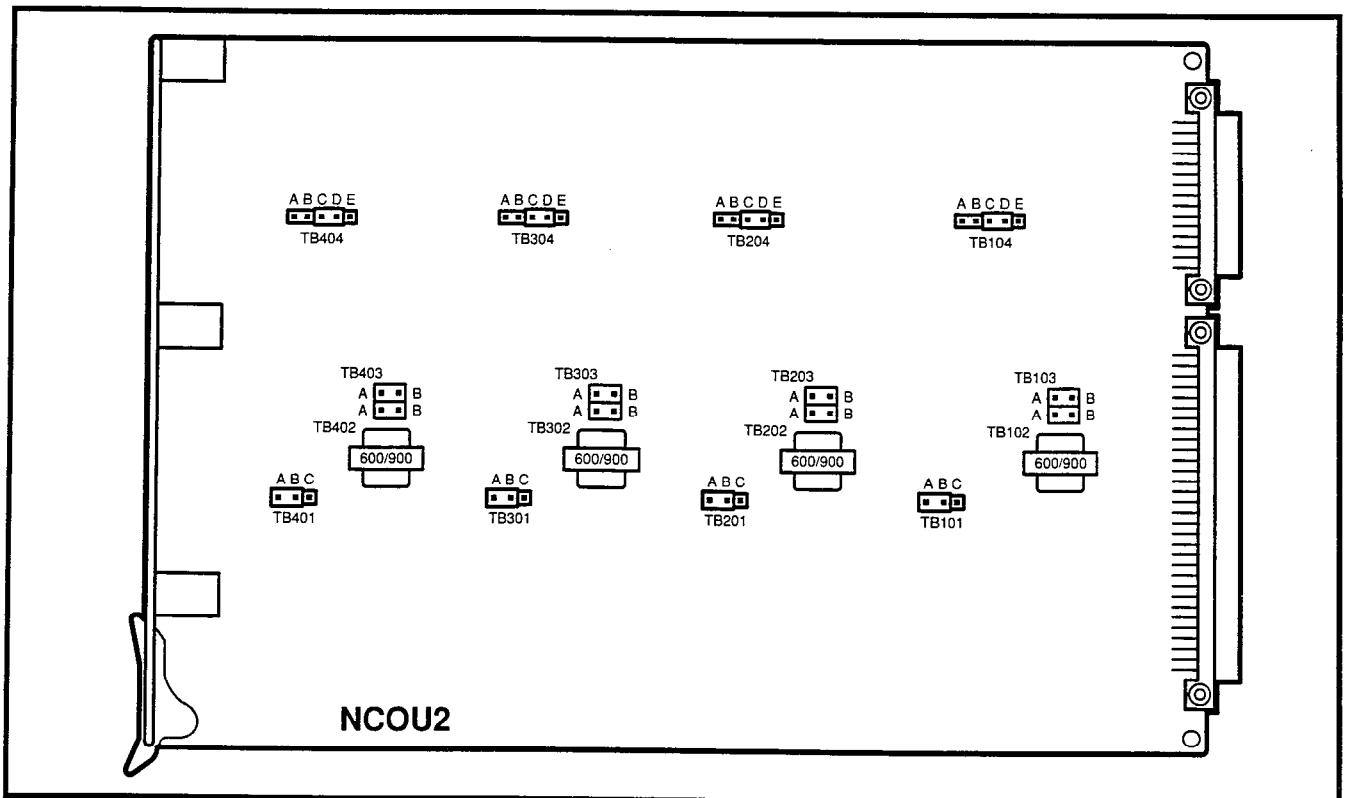

FIGURE 4-19—NCOU STRAPPING
3.73 The NCOU PCBs have Ground-/Loop-start, 600/900-ohm termination, and 2dB pad strap selections that must be made before they are installed (Figure 4-19).
- 2) Determine the proper impedance for each trunk and then strap its NCOU circuit for either 600- or 900-ohm operation. Install the shorting bar across the center pin and the outer pin labeled either 600 or 900 at each strapping location (Figure 4-19). Each circuit's strapping location is shown as follows: